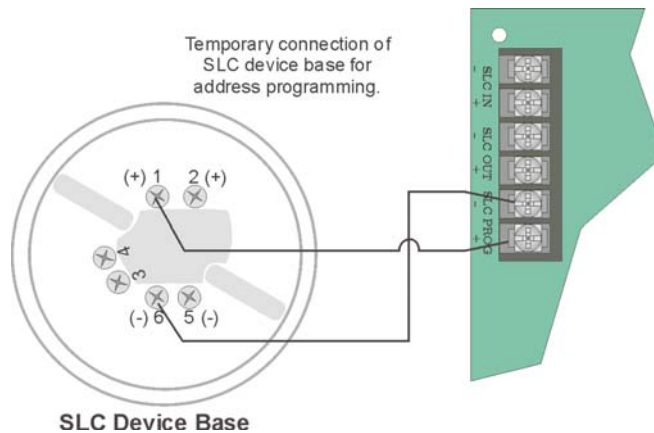

Figure 5-10 Temporary of Detector Base to Panel for Addressing
1. Connect a detector base temporarily to the programming terminals as shown in Figure 5-10. (You can use the same base for each detector.)